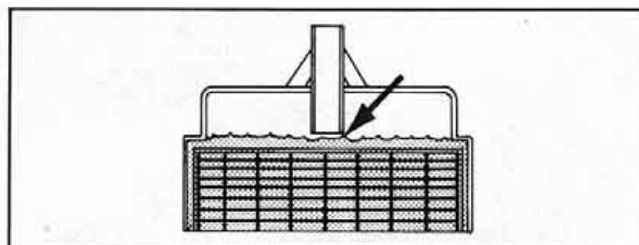

Figure 66:
3. Maintain level to base of fill pipe Fig. 66. The coolant required expansion space as it is heated.